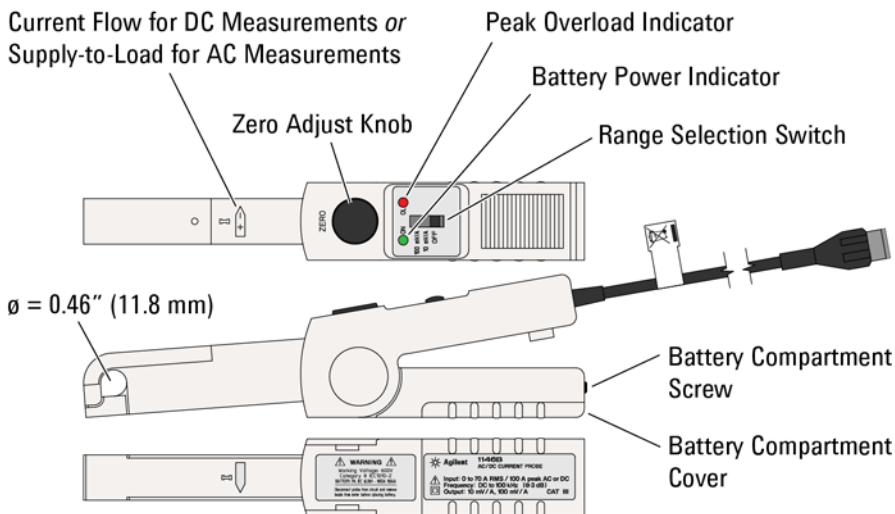

Figure 1 Control and Connector Identification
- 3 Unscrew the battery compartment screw (shown on Figure 1 on page 5) and pull out the battery compartment cover.